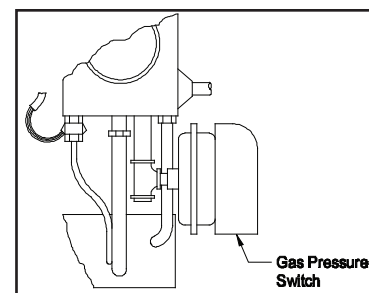

Figure 7
3. Install the gas pressure switch into the side of the pipe tee. The gas pressure switch is supplied with a restrictor orifice in the inlet and outlet ports. With these orifices in place, the switch does not need to be vented. This feature complies with current ANSI standards for gas regulators. (See Figure 7)